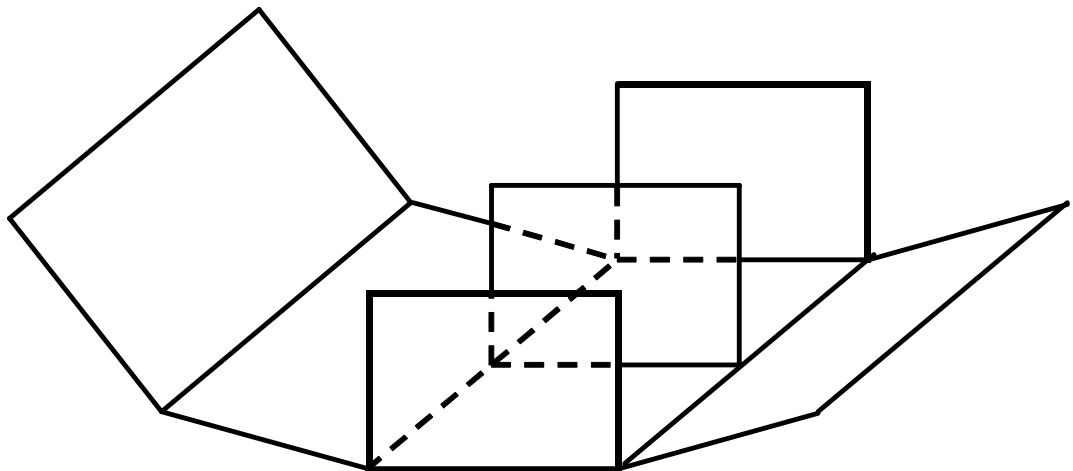

Figure 4: End pieces and diaphragm laced in position.
3.3: Lace end pieces and diaphragm(s) in place as shown in Figure 4: